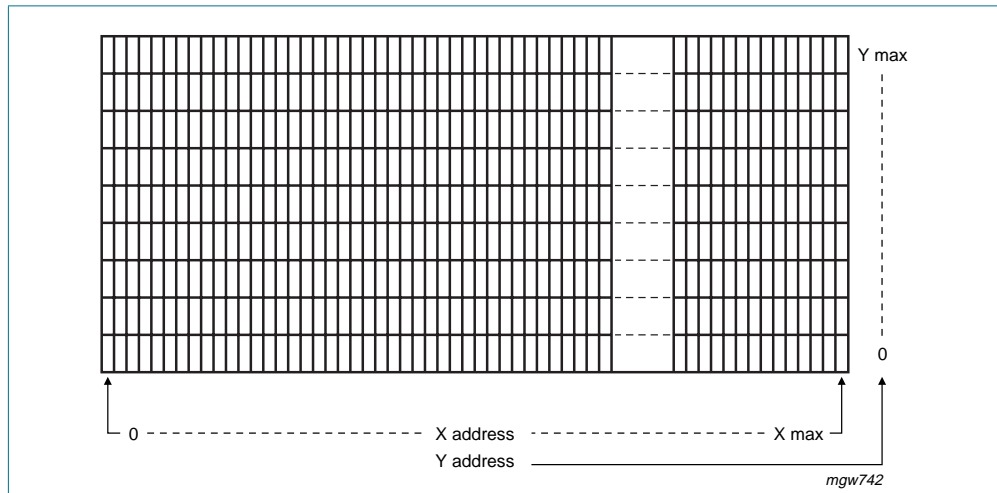
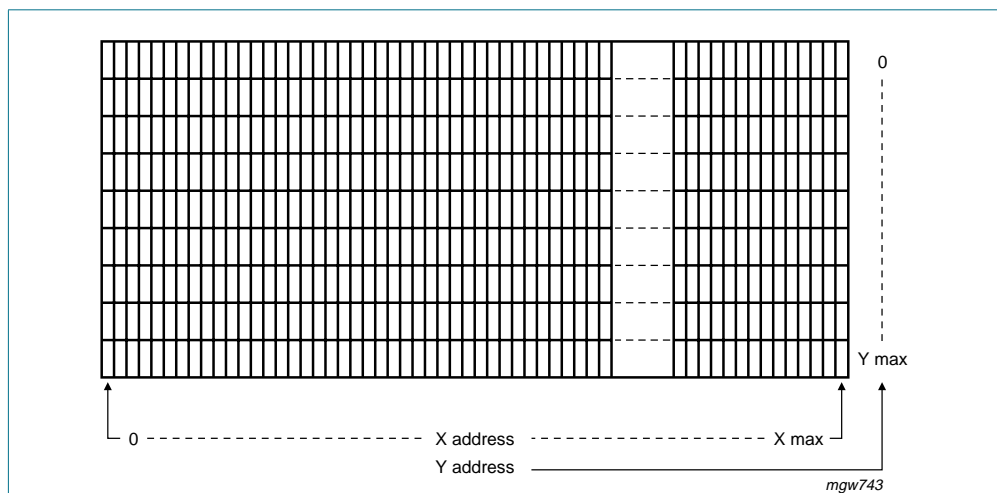

Fig 13. RAM format addressing; MY = 1 (both command sets)
Fig 14. RAM format addressing; MY = 0 (both command sets)
Mirror Y (MY): The MY bit allows vertical mirroring: when MY = 1, the Y address space is mirrored; the address Y = 0 is then located at the bottom of the display; see Figure 13. When MY = 0, the mirroring is disabled and the address Y = 0 is located at top of the display; see Figure 14.